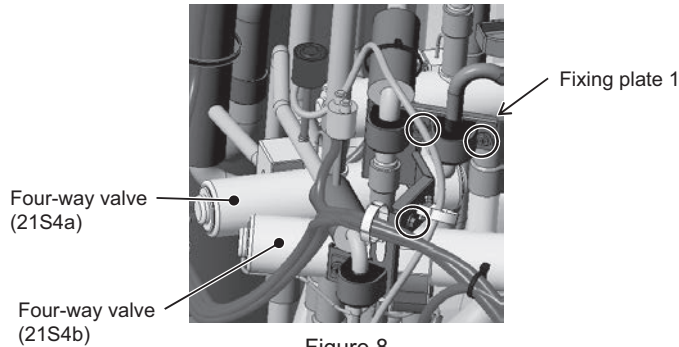

Figure 8
- (1) Remove the front heat exchanger. Refer to 8-12-11 Maintenance Procedures for the Heat Exchanger for details.
- (2) Remove the top, front, and right compressor covers. Refer to 8-12-7 Compressor Replacement Procedure for details.
- (3) Remove the fixing plate 1 above four-way valve (21S4b), saddle, and rubber spacer by unscrewing the three screws shown in Figure 8.